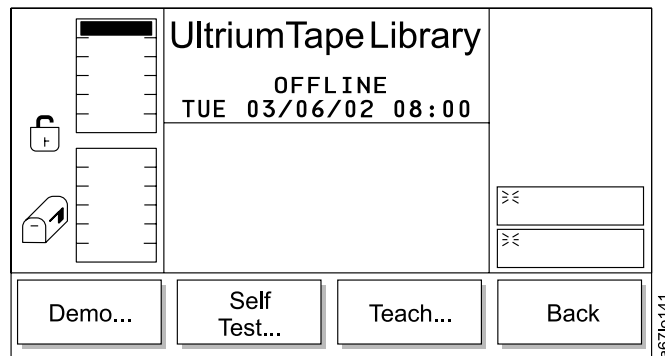

Figure 180. Exercise Submenu
- If **Cancel** is selected, the Exercise Submenu displays (see Figure 180 on page 143).